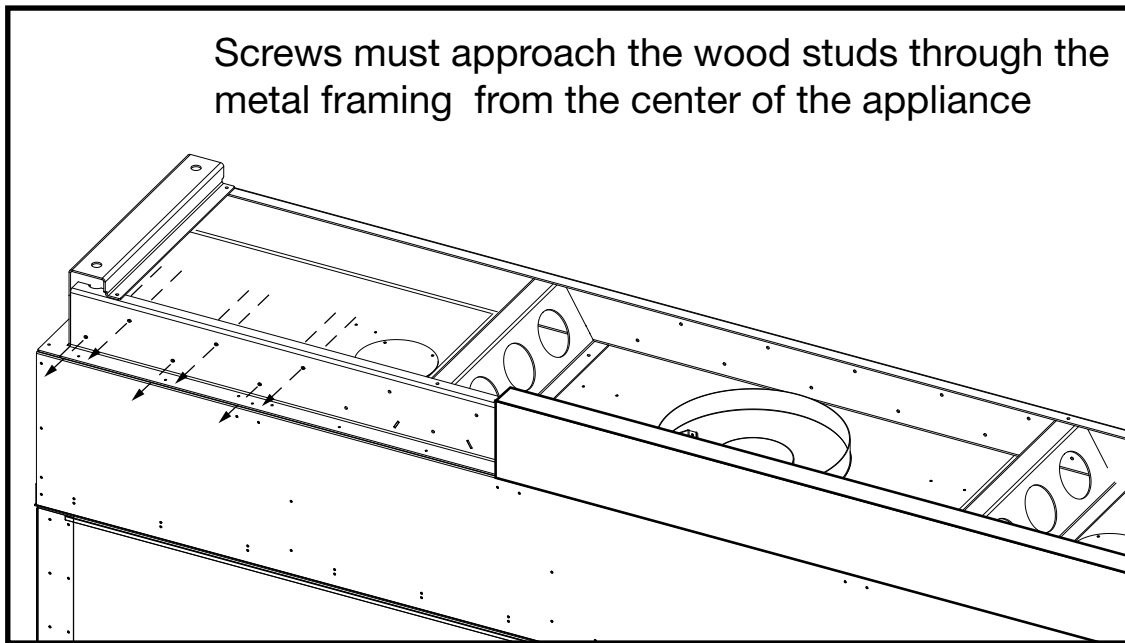

Figure 5: Stud securing points.
1. When securing the top of the unit to the wooden studs, the screws must come through the metal framing from the center of the unit (Figure 5).